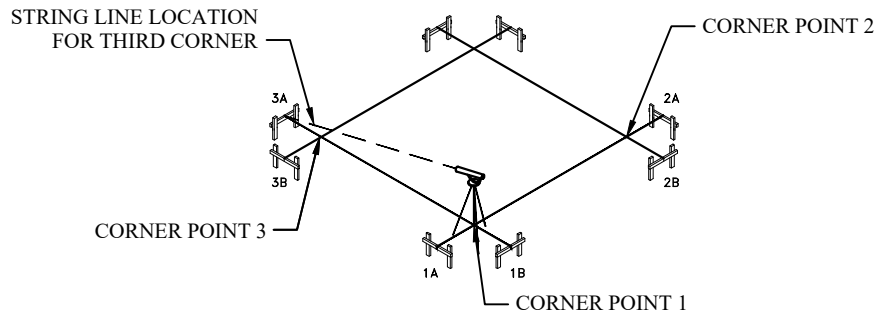
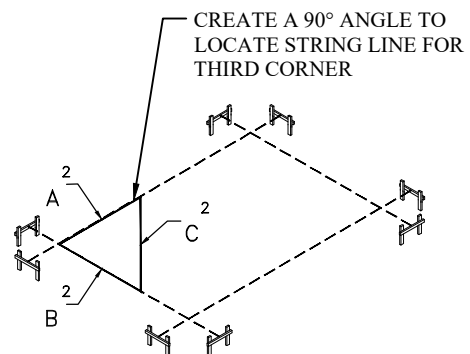

FIGURE 2 - LOCATING CORNER POINT 3
FIGURE 4 - TRIANGLE METHOD
5. TO LOCATE THE THIRD CORNER POINT (FIG 2), YOU MAY USE ONE OF TWO METHODS, THE DIAGONAL METHOD OR THE TRIANGLE METHOD.
THE TRIANGLE METHOD - CREATE A 90° ANGLE FROM THE FIRST LINE USING CORNER POINT 1 AS A VERTEX. THIS ANGLE MAY BE ACCOMPLISHED BY USING TWO TAPE MEASURES AND THE CHART LISTED BELOW (SEE FIGURE 4) (USE THIS METHOD FOR LARGER BUILDINGS WHERE THE LENGTH OF THE DIAGONAL EXCEEDS THE 100 FOOT TAPE MEASURE). WHEN YOU'VE LOCATED CORNER POINT 3, PULL YOUR SECOND LINE BETWEEN BATTER BOARD "1B" AND BATTER BOARD "3B" MAKING SURE IT PASSES OVER CORNER POINT 1 AND CORNER POINT 3. CHECK WITH TRANSIT MAKING SURE THAT BATTER BOARDS AND LINES ARE LEVEL (SEE FIG. 2.)